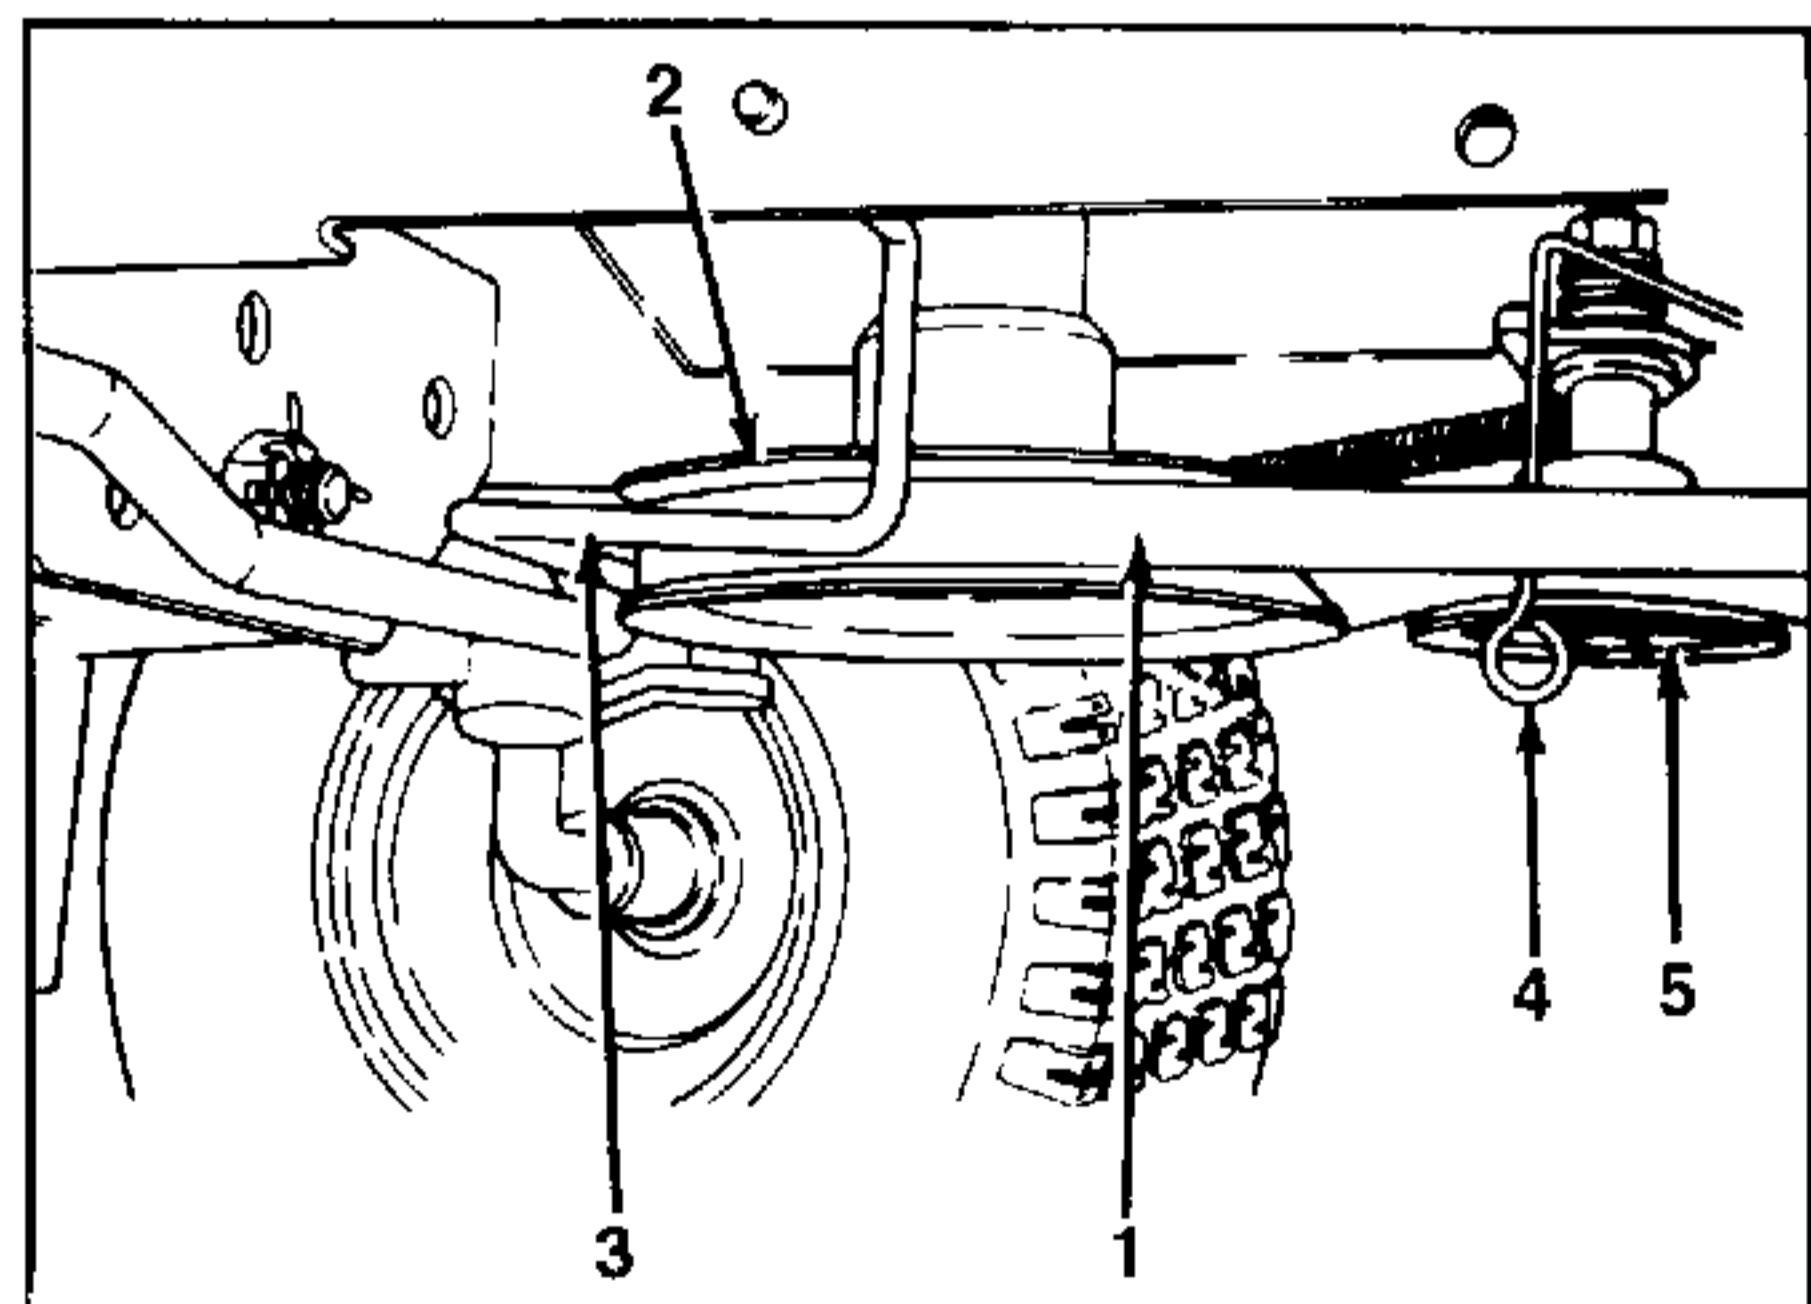

FIGURE 10.
- With the PTO engagement lever in the "OFF" position, install the PTO drive belt while working from the left side of the tractor. Push the engine drive pulley belt guard upward and toward the front of the tractor to allow the belt to be installed on the engine drive pulley. Refer to figure 10.
11. To install the PTO drive belt to the idler pulley, pull the loop on the idler pulley belt guard away from the idler pulley. Slide the belt onto the idler pulley and release the idler pulley belt guard. Refer to figure 10.